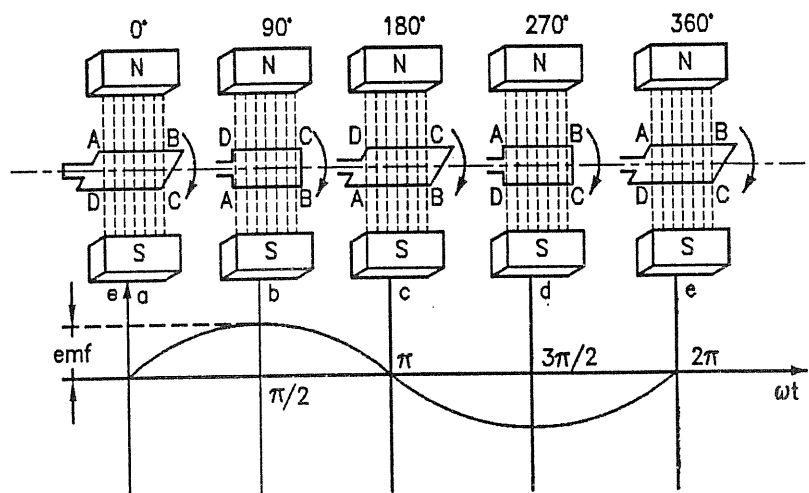

FIG. 2.10 : GENERATION OF AC
- Various positions and the curve is shown in Fig. 2.10.